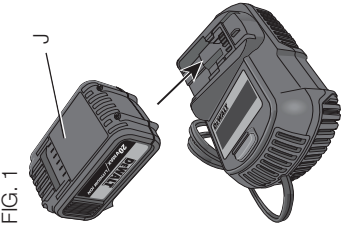

FIG. 1
2. Insert the battery pack (J) into the charger, as shown in Figure 1, making sure the pack is fully seated in charger. The red (charging) light will blink continuously, indicating that the charging process has started.